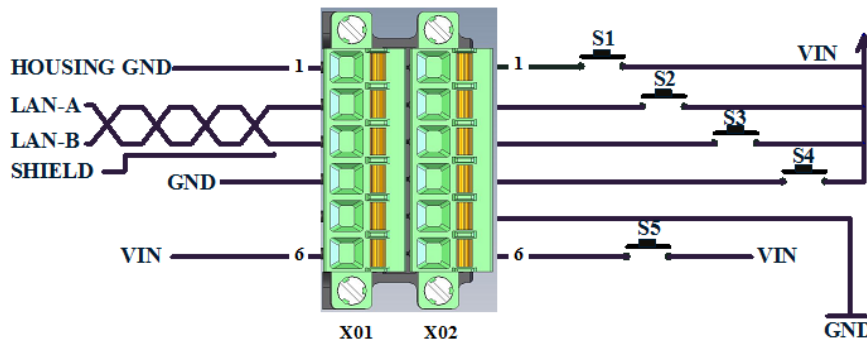

Figure 13: Digital inputs with external contacts (door contacts)
**Note:** It is recommended to connect X01-5 to the positive (+) pole of the vehicle's battery (acc. DIN 72552 clamp 30\*) and X01-6 to the vehicle's ignition or set-up/out-of-order signal (acc. DIN 72552 clamp 15\*). When there is no separate switching available, power supply must directly be connected to pin X01-6 (see Figure 13).